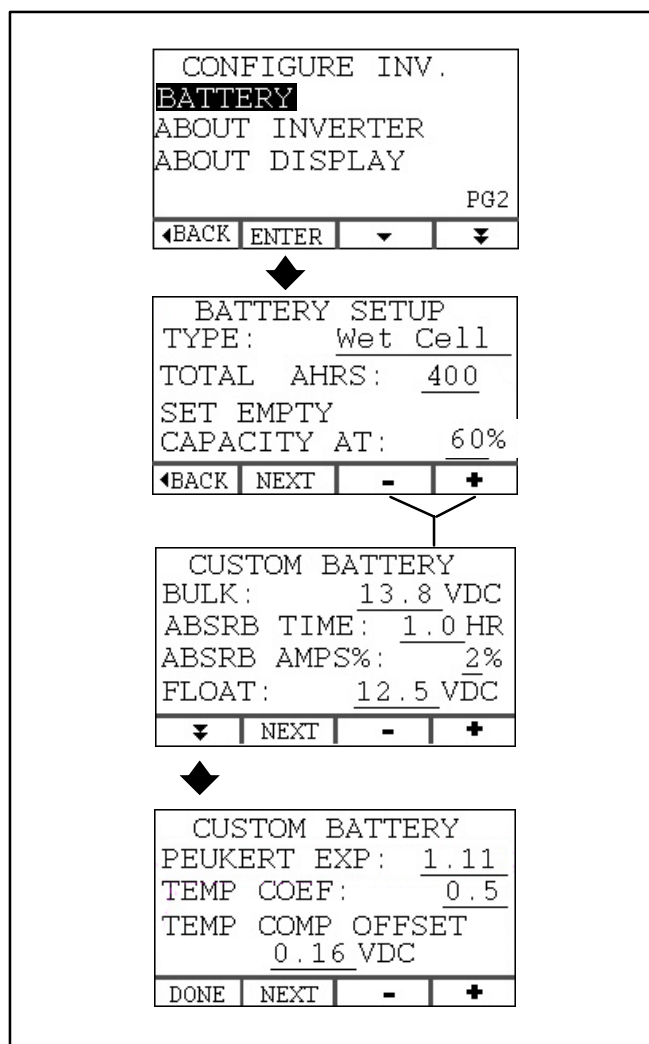

FIGURE 7-7. CUSTOM BATTERY PARAMETERS
2. Select BATTERY on CONFIGURE INV. PG2 and press ENTER (Figure 7-7). See Page 4-18 for instructions on how to get to the CONFIGURE screen.
6. To restore the Onan preset battery configuration, go back to the BATTERY SETUP screen (second screen in Figure 7-7) and pick Wet Cell, Gel #1, Gel #2, or AGM, as appropriate.